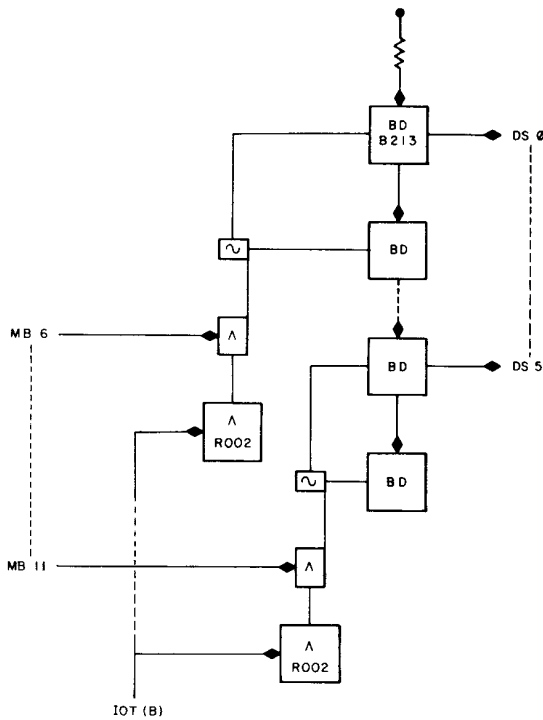

Figure 2-5 MB, DS or SD Signal Buffering
MB Bits 6 through 13 Buffering - Figure 2-5 shows how MB bits 6 through 13 of the CP are gated with the IOT (B) signal (always present during an IOT instruction) and then drive DEC Type B213 Bus Drivers down the I/O bus in the form of signals DS0 through DS5 for MB6 through MB11 and SD0, SD1 for MB12 and MB13. Any device on the bus must be able to decode these signals.